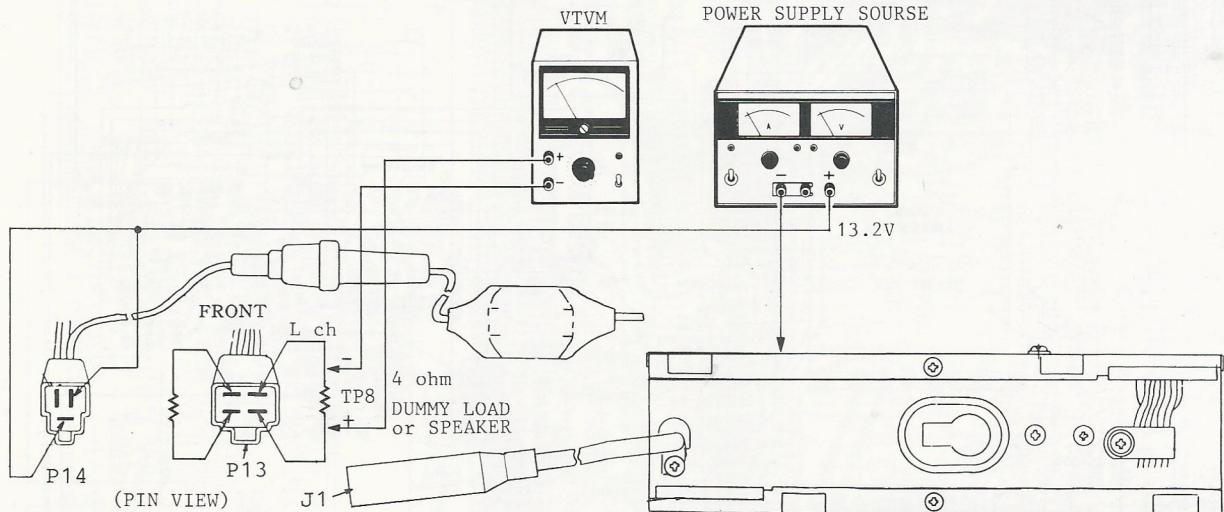

Fig. 8 (C33190231)
- Connections : Refer to Fig. 8.